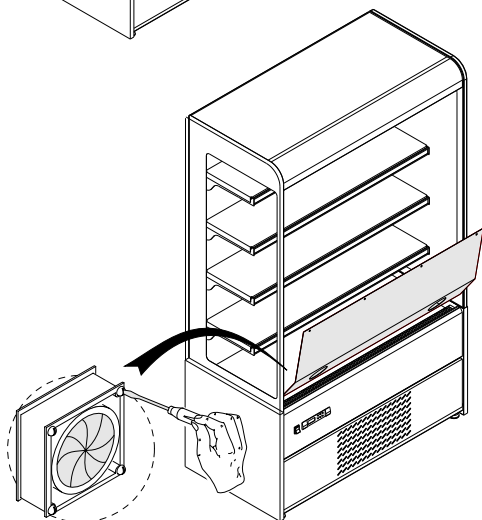

Fig.21
- Lift the fan holder (See fig.21)